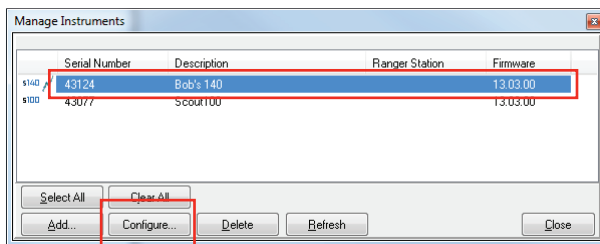

FIGURE 2: Selecting the specific SCOUT instrument and opening the Instrument Properties dialog from the Manage Instruments dialog.
2. Select the connected instrument and click **Configure** (Figure 2).